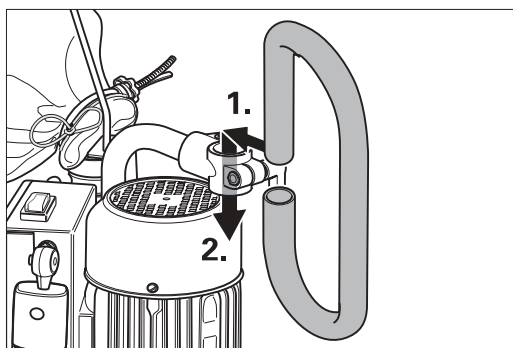

Fig. 17: Installing the handlebar on the pipe bend.
- 2 Install the handlebar directly in the bracket on the front end of the pipe bend (Fig. 17). Tighten the clamping lever again.